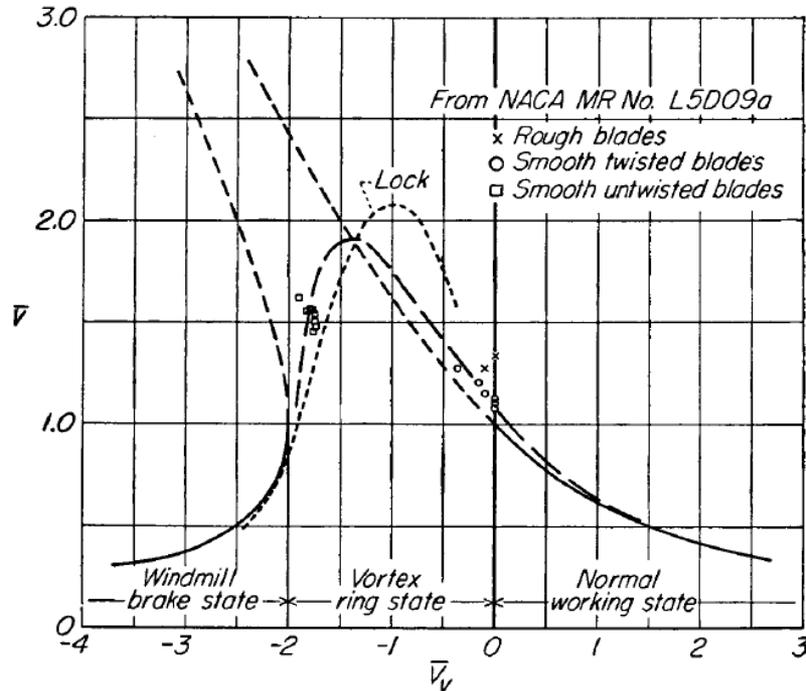

Fig. 6-8 Empirical curves of \bar{v} versus \bar{V}_v in vortex-ring state.
- **Fig. 6-8** : NACA test data → good agreement